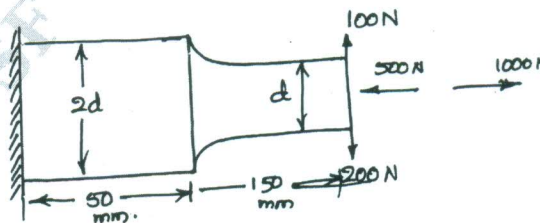

Fig Q3
- 3 A steel cantilever member shown in Fig Q3 is subjected to an axial load that varies from 500N compression to 1000N tension and to a transverse load at its free end that varies from 100N up and 200N down. Determine the required diameter of the section using a factor of safety 2. The strength properties of the material are $\sigma_u = 550\text{MPa}$, $\sigma_y = 480\text{MPa}$, $\sigma_{-1} = 270\text{MPa}$. Neglect the column action and notch effect. (20 Marks)